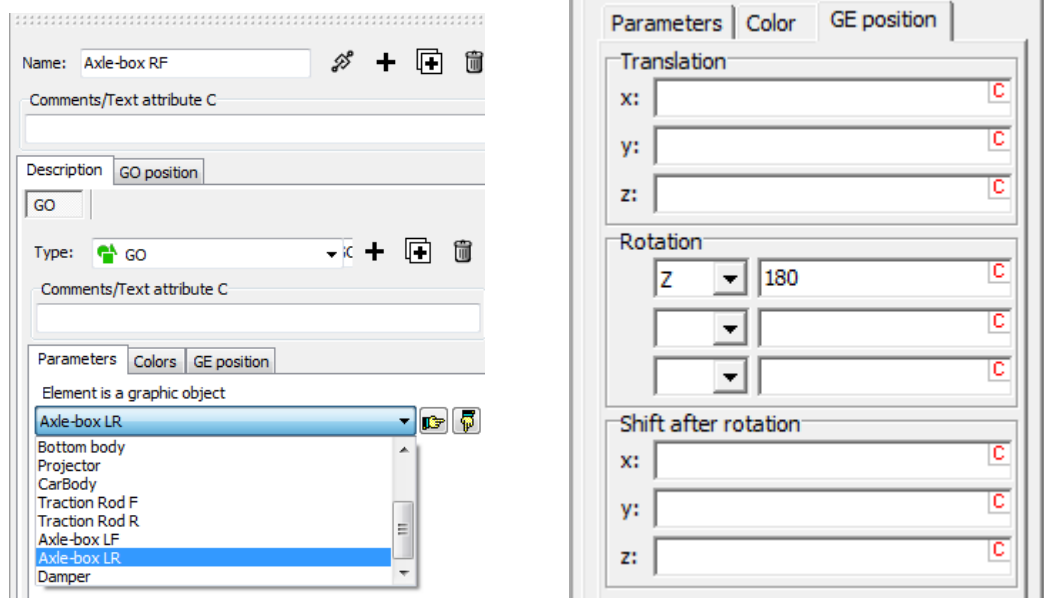

Figure 2.11. Creating image for the right front axle-box by rotation of the left rear axle-box
- Create a new GO by the  button. Rename it as **Axle-box RF** – (R)ight, (F)ront.
- Add a graphic element (GE) by the lower button .
- Assign the **GO** type to the new GE, i.e. a reference to one of the existing GO. Select the **Axle-box LR GO** from the drop-down list, Figure 2.11, Left.
- In the **GE position** tab, rotate the image on **180** degrees about the Z-axis, Figure 2.11, right.